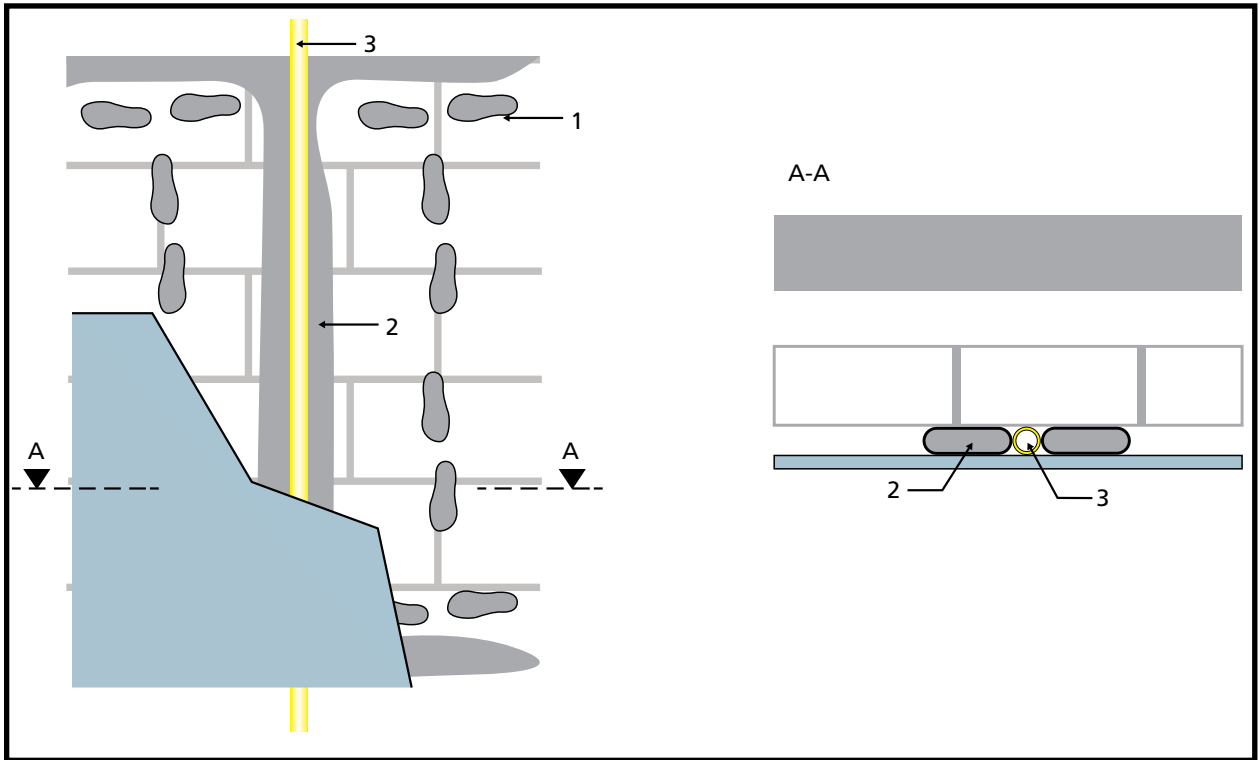

Figure 14: Brick and block with dry lining on dabs
- brick and block with dry lining on dabs (Figure 14)